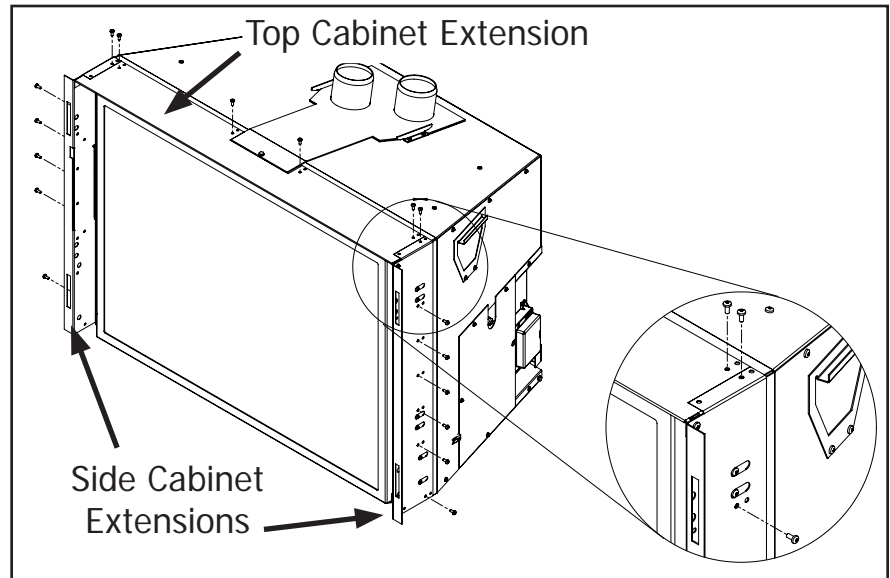

Figure 43: Removing Extension Screws
1. Using a T20 screwdriver, remove the four (4) screws that secure the top extension to the cabinet (see Figure 43).
2. Remove the six (6) screws on each side extension (see Figure 43).